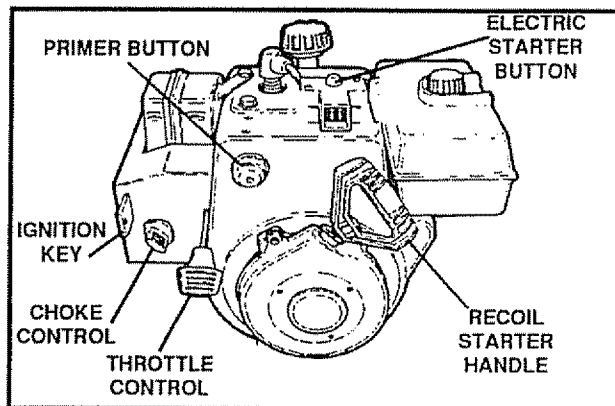

FIG. 10
- To stop the engine, push the throttle control lever to STOP and pull out the ignition key (See Fig. 10)